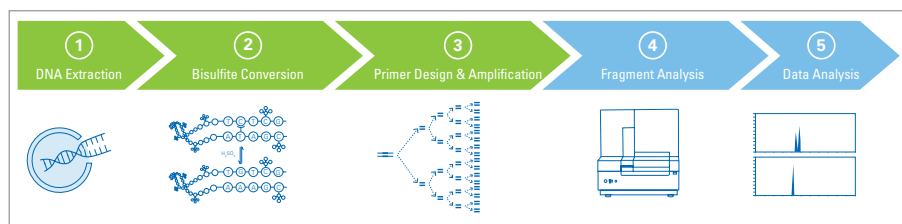
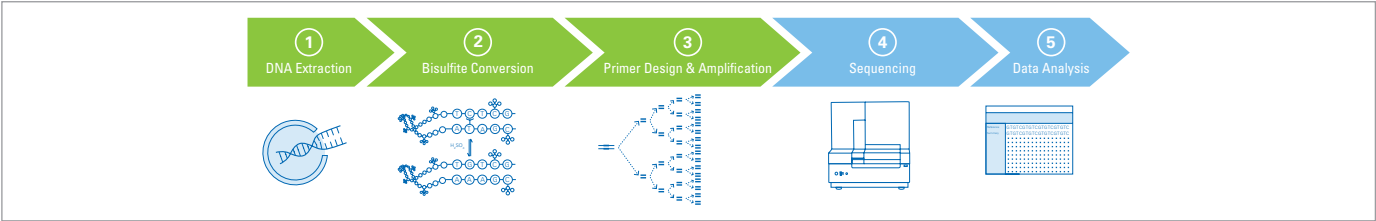

Figure 2. Bisulfite Specific Methylation Sensitive Mobility Shift Assay Workflow.
Figure 4. Bisulfite Specific PCR-based Sequencing.
1. Bisulfite Specific Methylation Sensitive Mobility Shift Assay (Figure 2)
2. Bisulfite Specific PCR-based Sequencing (Figure 4)
Use Applied Biosystems capillary electrophoresis instruments for data collection. Perform application specific analysis of data and interpretation of results to evaluate or confirm the changes in the methylation status. For secondary analysis of fragment analysis-based workflows, use GeneMapper® Software v4.0 or Peak Scanner™ Software (Figure 2). For secondary analysis of sequencing-based workflows, use Variant Reporter™ Software v1.0 or SeqScape® Software v2.6 (Figure 4, 6).
MSMSA is a DNA fragment analysis application used to assess the degree of methylation present in a given amplicon. The first 3 steps in Figure 2 are similar to the general workflow described above. Samples from a fragment analysis assay can also be used in a downstream sequencing step, making this application ideal for screening. The assay primers are designed like bisulfite sequencing primers (ie: designed to regions without CpGs) using Methyl Primer Express Software, so that PCR amplification is not dependent on methylation status. The forward primer has a fluorescent dye label (FAM™). The capillary electrophoresis step takes advantage of the mobility differences between C/T. Hence, methylated C-rich fragments migrate faster than unmethylated T-rich fragments (Figure 3). GeneScan™ 600 LIZ® Size Standard is used as a sizing marker. For data analysis, GeneMapper Software v4.0 or Peak Scanner Software v1.0 is used.
This application is used to identify which CpG dinucleotides are important for the biological process under investigation. The first 3 steps of the workflow in Figure 4 are described in the general workflow above. Direct PCR sequencing of a pool of fragments takes place providing qualitative results and information on which CpG dinucleotide has changed. Figure 5 provides qualitative information for each CpG loci across the entire amplicon. For data analysis, Variant Reporter Software v1.0 or SeqScape Software v2.6 is used.